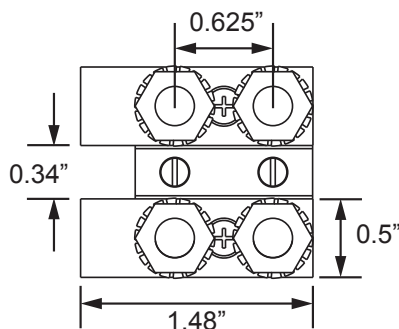

Figure 6. Input Bus Bar Detail
- 11.5** The above connections to the LVD1U200 are made by means of crimp-type lugs or direct connection to 1/4-20 studs on the copper bus bars on side A or B. Spacings are detailed in figure 6 below.